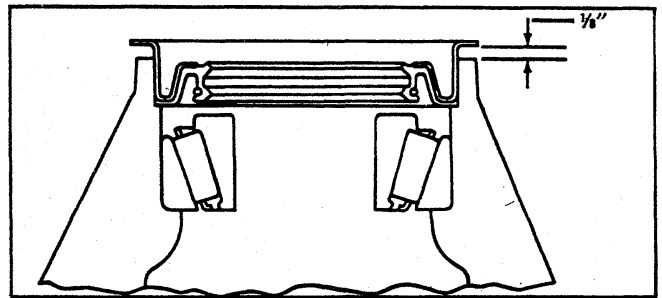

Fig. 95—Pinion Seal Installed
2. Tap seal into position until there is a 1/8" gap between seal flange and carrier (fig. 95).